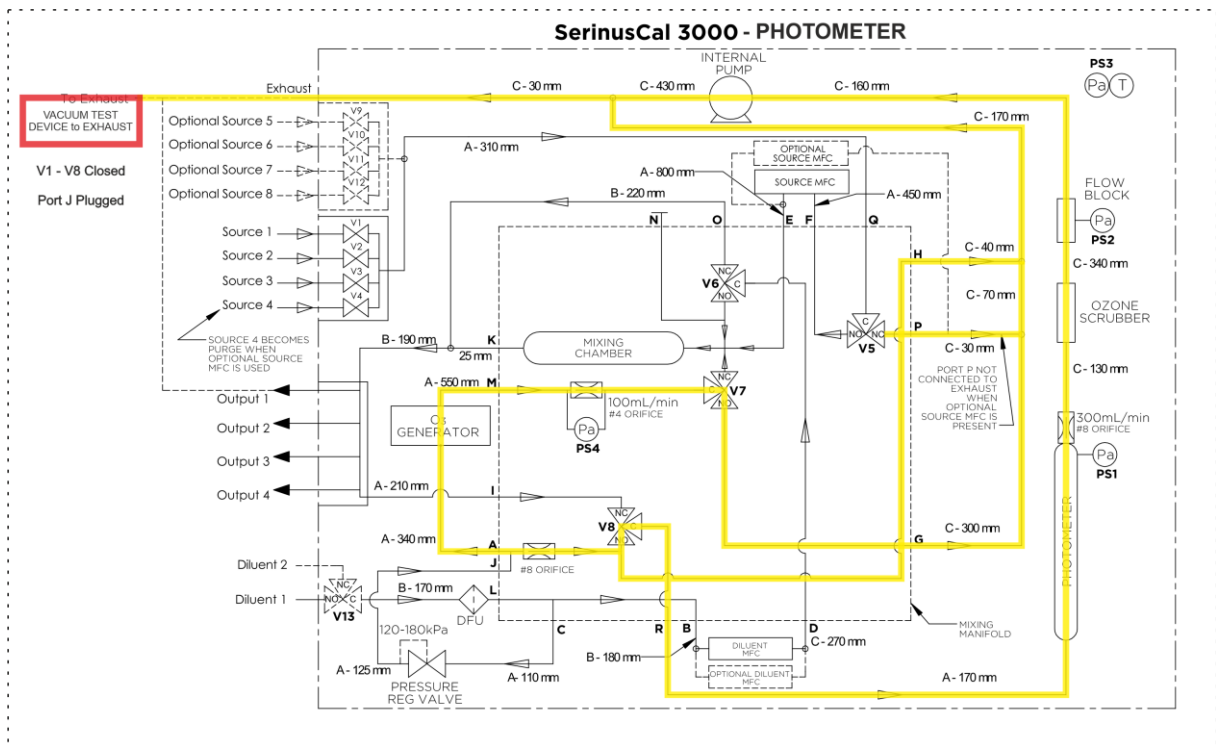

Figure 170 – Leak Check: Isolate Photometer Schematic
- **If a leak test fails** the photometer plumbing is leaking. Refer to Figure 170 and work away from vacuum test device to further isolate and rectify leak.